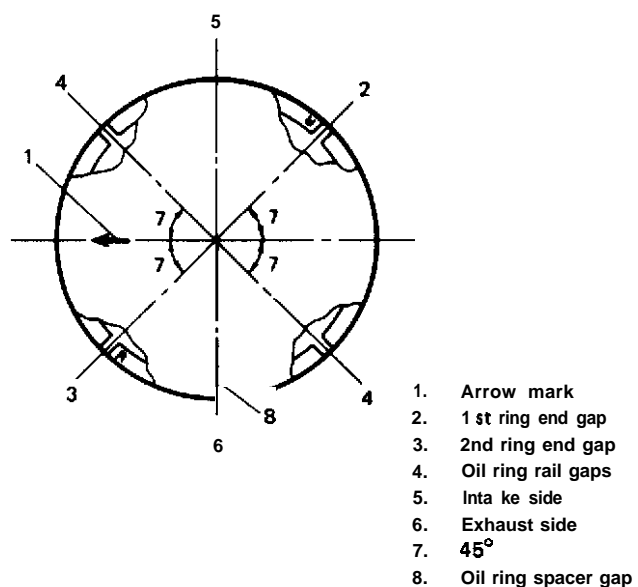

Fig. 3-6-17 Piston ring end gaps positions
- After installing 3 rings (1st, 2nd and oil rings), distribute their end gaps as shown in Fig. 3-6-17.